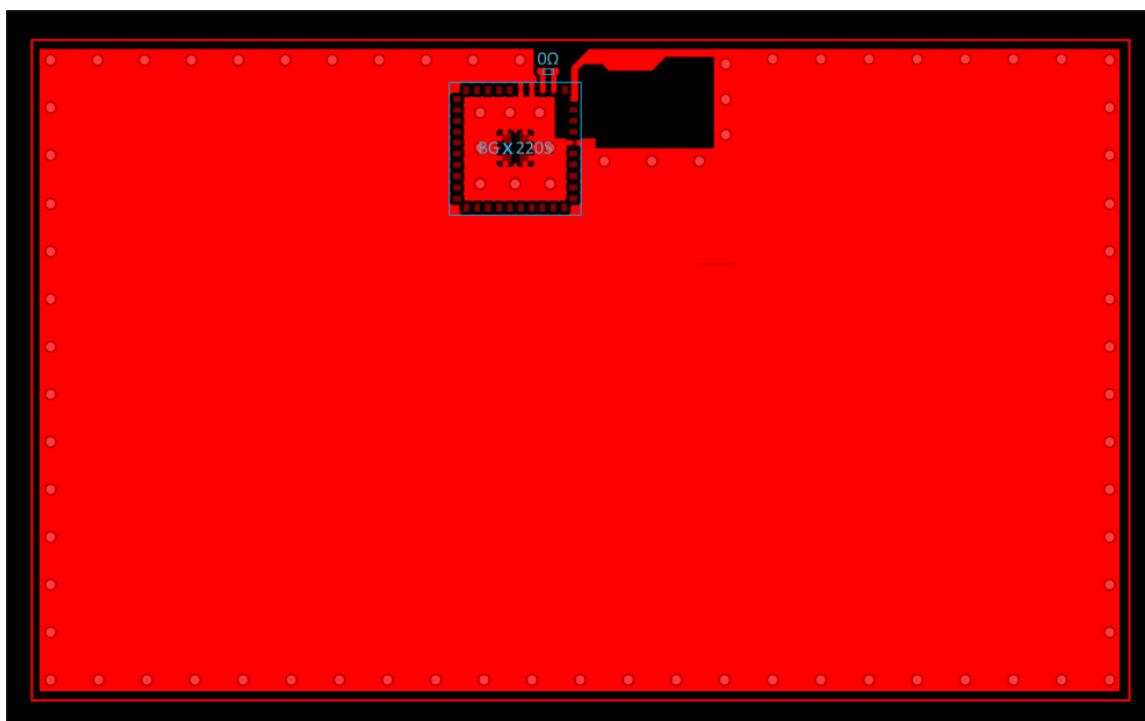

Figure 7.1. Recommended Layout for BGX220S
- Place the module 1.50 mm from the edge of the copper “keep-in” area at the middle of the long edge of the application PCB, as illustrated in Figure 7.1 Recommended Layout for BGX220S on page 24.